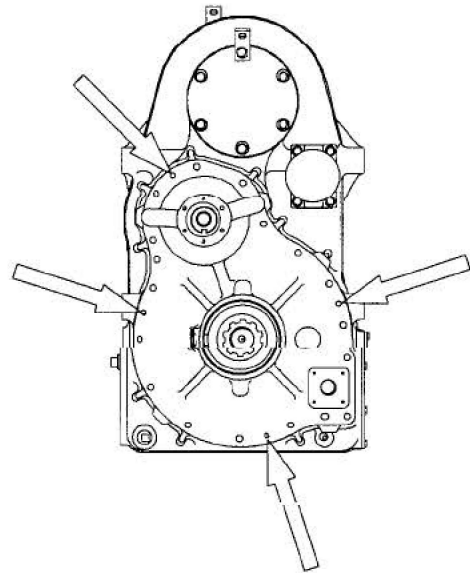

Fig. 26
26. Install four (4) 7/16-14 NC bolts into the rear carrier and tighten equally to force the carrier from the transfer case housing. See Fig. 26.